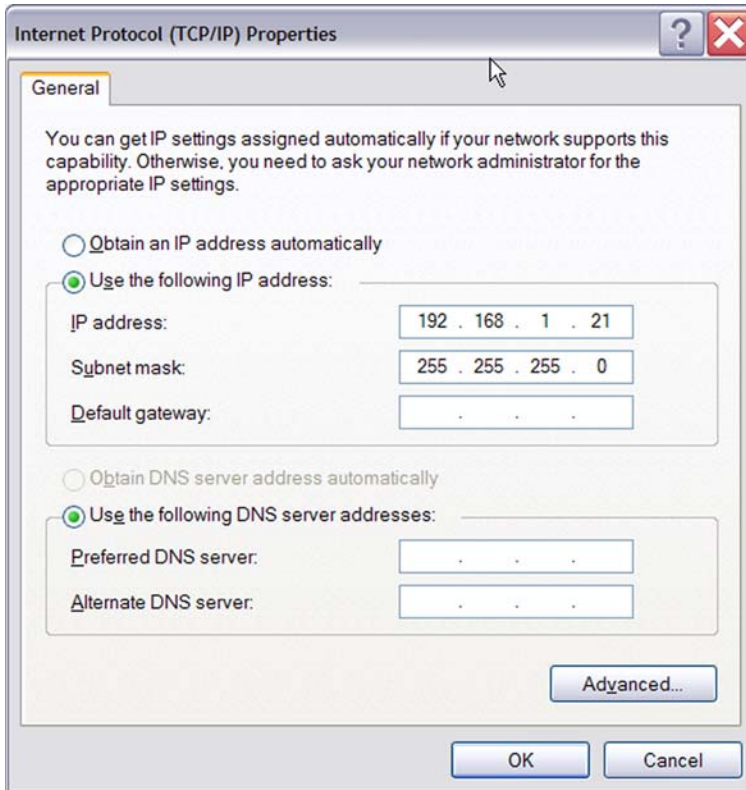

Figure 14. Internet Protocol Properties Dialog
4. Select **Internet Protocol (TCP/IP)** from the scroll down list, and click **Properties** button. The **Internet Protocol (TCP/IP) Properties** dialog box appears, see Figure 14.
5. Enter the IP address and subnet mask to match those shown in Figure 14. Leave the remaining fields blank. In this example, an IP address of 192.168.1.21 and a subnet mask of 255.255.255.0 are being assigned to the PC. These values connect the PC to the same network as the Crimzon ICE unit.